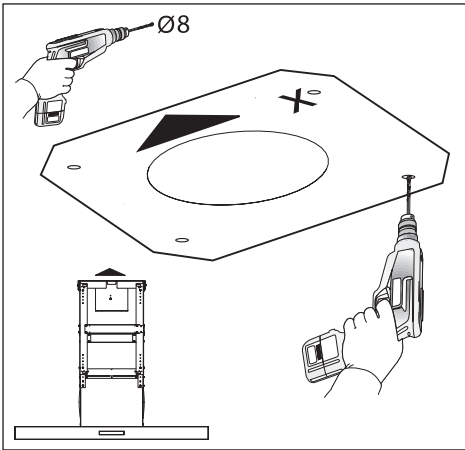

Fig.7
- Position the perforation template on the ceiling making sure the arrow is positioned on the same side as the appliance control (Fig.7).